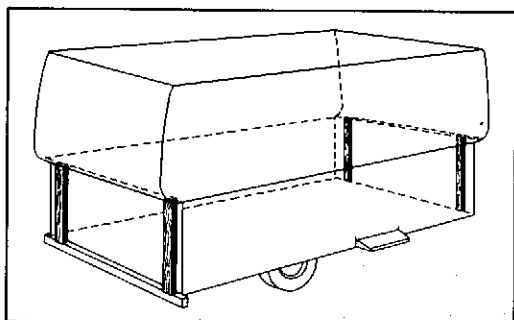

Figure 4
Check the leveling adjustment points. For simple front and back realignment, adjust the proper adjusting nut located on the underside of the trailer. All front-to-back adjustment should be made with the trailer upper section supported so that tension is removed from the cables — accomplished by lowering the upper section onto four 2" x 4" boards of the same length to brace between top section and frame member. (Figure 4).
1. Lower the top section onto 2" x 4" boards as shown in Figure 4.